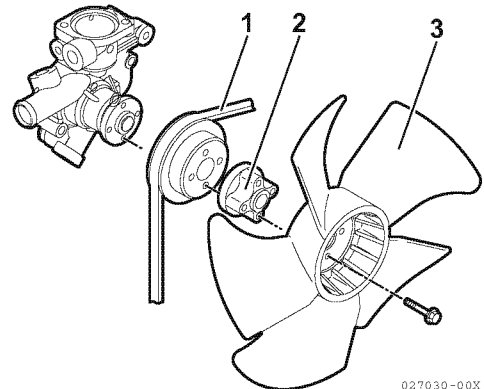

Figure 9-3
1. Remove the coolant fan guard (if equipped), cooling fan (**Figure 9-3, (3)**), spacer (**Figure 9-3, (2)**), coolant pump V-pulley (**Figure 9-3, (1)**) and V-belt.